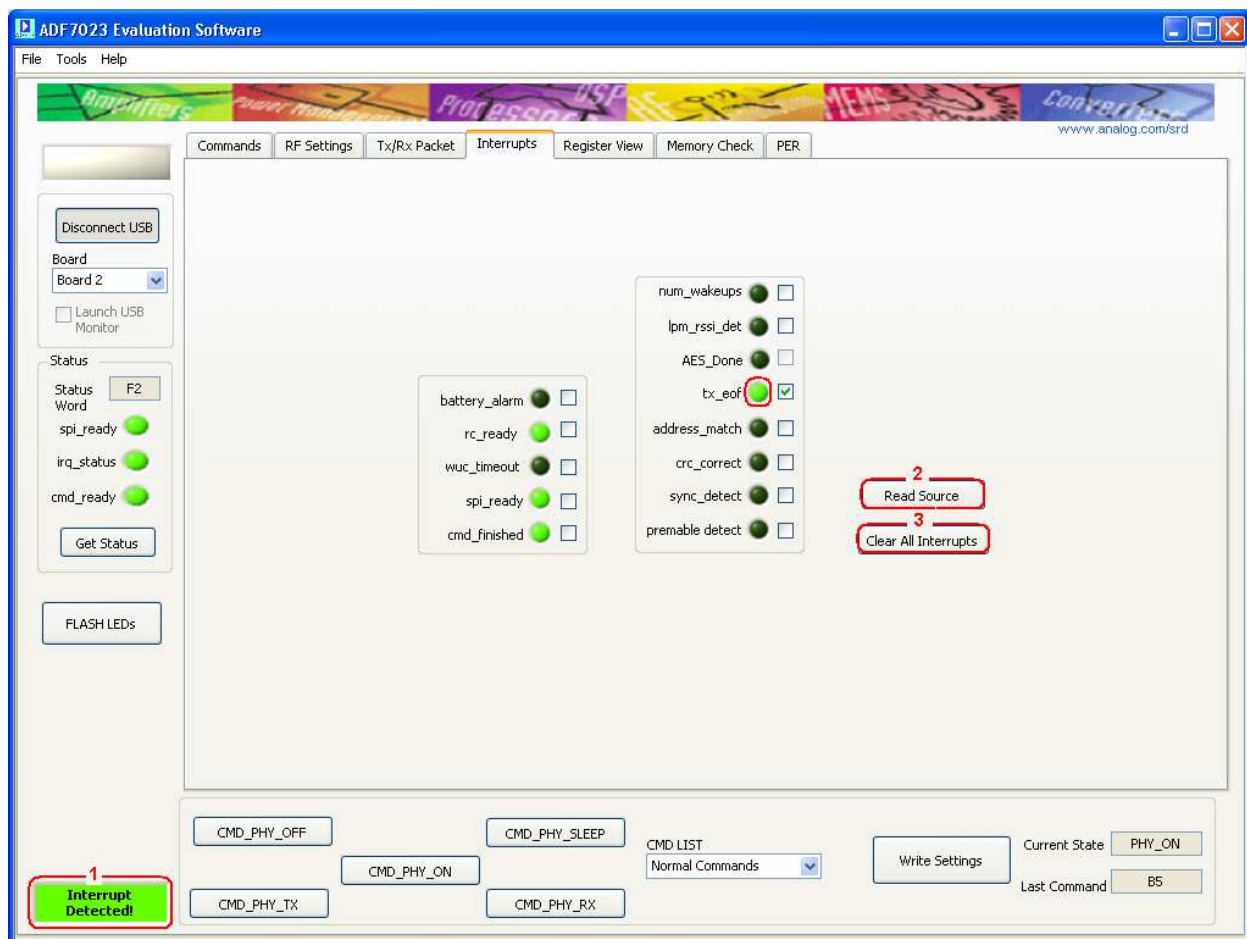

Figure 37
Once the Transmitter has transmitted a packet you should now see “**Interrupt Detected!**” on both instances of the software. (Figure 37 point (1))
On the Transmitter board the interrupt signifies that a packet has been successfully transmitted. To check the source of the interrupt, click “**Read Source**” (Figure 37 point (2))
To Clear the interrupt status click “**Clear All Interrupts**” (Figure 37 point (3))